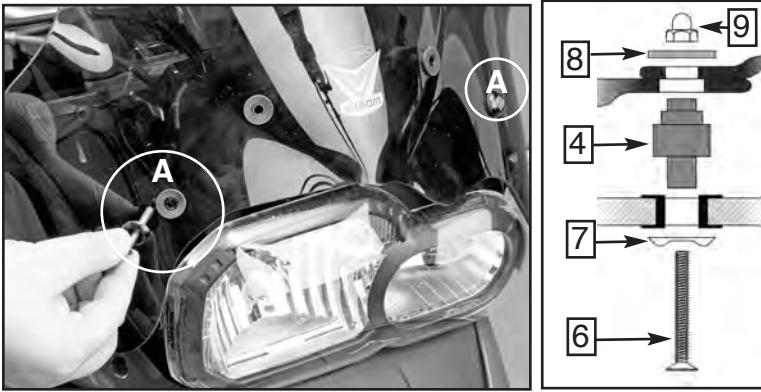

Figure 3
3. Start at the outer mount locations (A) and install windscreen using screw assembly as shown in figure 3. (5mm Hex Wrench, Closed Box Wrench) Figure 3.